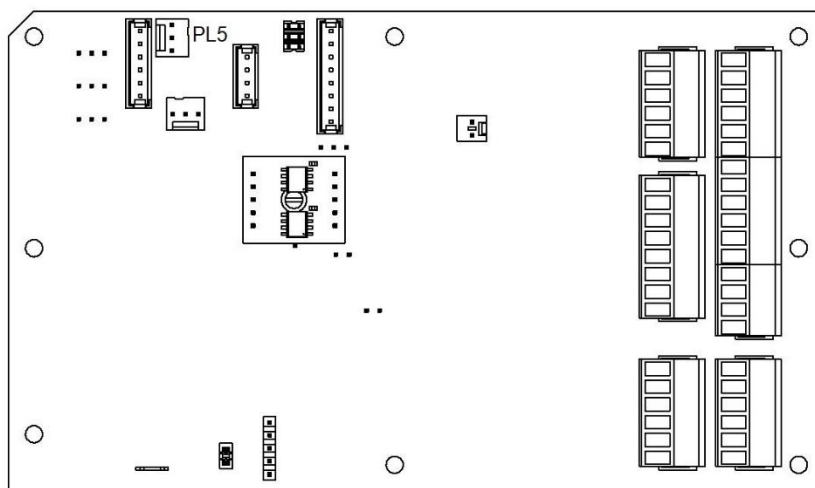

Figure L-4 Disconnection of the UV LED from the analyser pcb1
4. Disconnect the UV LED connector (PL5) from the analyser pcb as shown in figure L-4 below